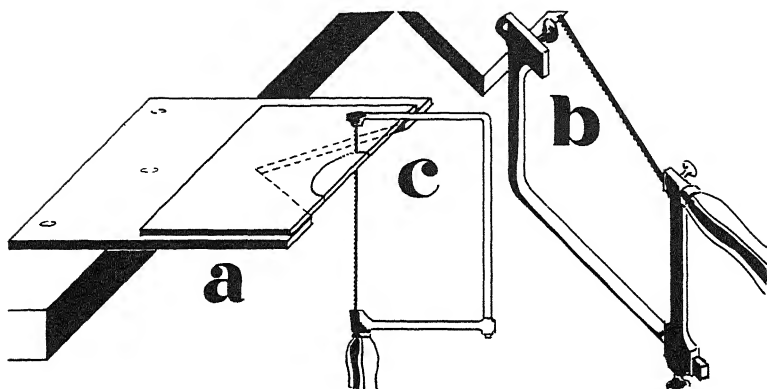

FIG. 13
break when caught. First, fasten the lower end of your blade in the bottom of the frame near the handle; then, holding the frame in a horizontal position in front of you with the handle of the frame against your body, the further end of the frame should be held against the edge of your bench or table and a little pressure exerted forward toward the handle. This will slightly contract the opening for the blade. (See B, Fig. 13.) While you are securing the other end of the blade in the top of the frame, tighten your screws. The pressure should then be relieved and the blade will be taut.
To saw out fretwork designs you will require a V-shaped sawing board, as shown in the illustration, Fig. 13. The method employed for sawing out fretwork designs will be described later. You can easily make one of these sawing boards by cutting a V-shaped opening, about 2" wide on the outer end and about 4" deep, out of any piece of good hard wood. This can be nailed or screwed to your workbench in such a manner that the V-shaped opening projects out from the edge. (See A, Fig. 13.) If desired, you can
clamp this sawing board onto your work table and use when needed. When not in use, it can be put away. When using the V-shaped sawing board, the material to be cut out is placed on the open V and the sawing is done in the opening, as shown in the illustration, Fig. 13 (C). When you desire to saw out an outer line, the sawing board is not needed, for then the metal can be held on the right end of your working bench, with the part to be sawed out projecting over the edge.